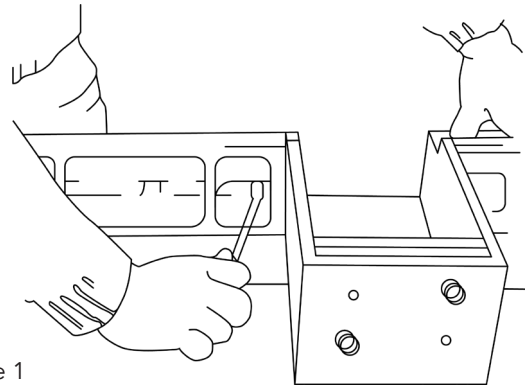

Figure 1
- If the product has been shipped in sections, join the wallbox to end frames with both bolts provided. (Figure 1)